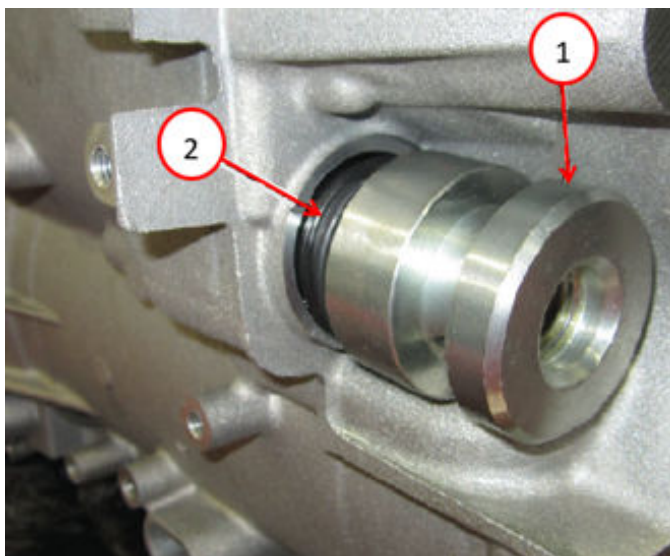

Fig. 11
16. Using Guide Sleeve 10377, carefully pull the electrical harness insulator straight out from the transmission case Fig. 11.